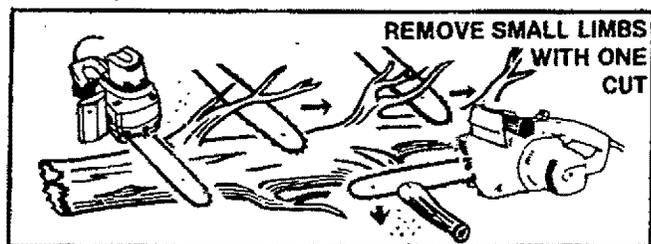

Figure 33
- c. **Start at the base of the felled tree and work towards the top, cutting branches and limbs.** Remove small limbs with one cut. Figure 33.
- c.) File from inside toward outside of cutter, straight across, on forward stroke only. Use 2 or 3 strokes per cutting edge. Figure 33.